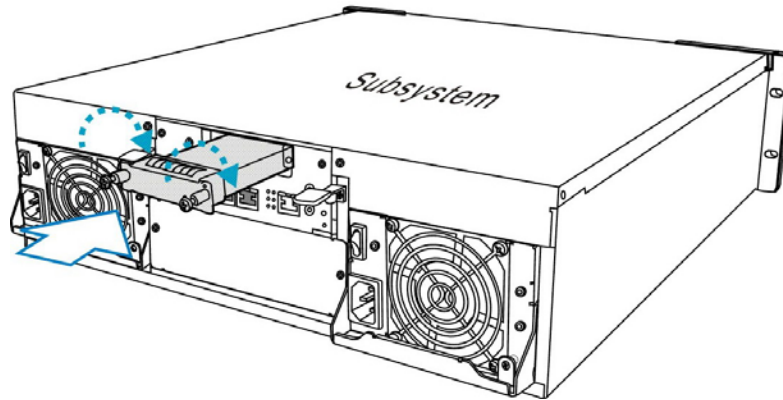

Figure 5-7: Install the BBU Module
Step 2. **Install the replacement BBU.** After the faulty BBU has been removed, the new BBU module can be installed. To do this, align the BBU module with the empty slot, and then gently push the BBU module into the slot. (See *Figure 5-7*)